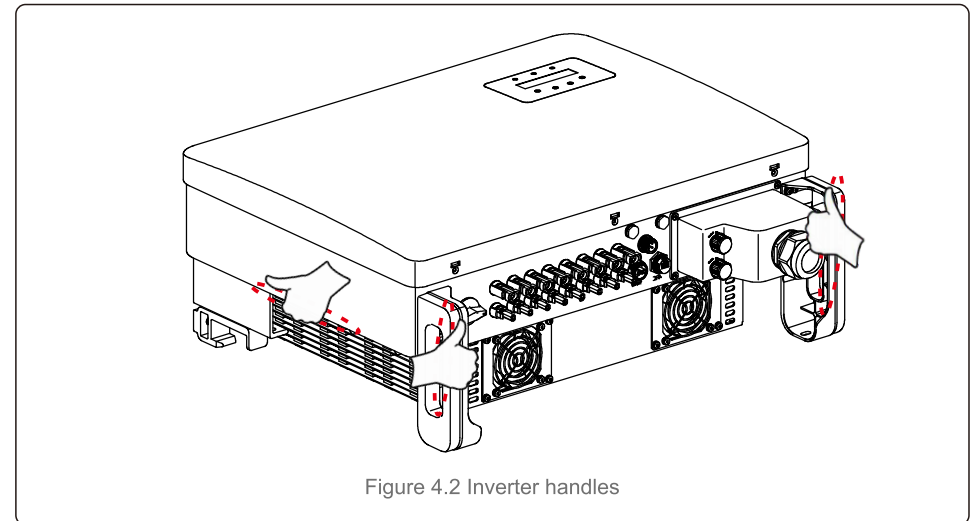

Figure 4.2 Inverter handles
2. Open the carton, then two people handle both sides of inverter through the area denoted dotted line. ( see figure 4.2).